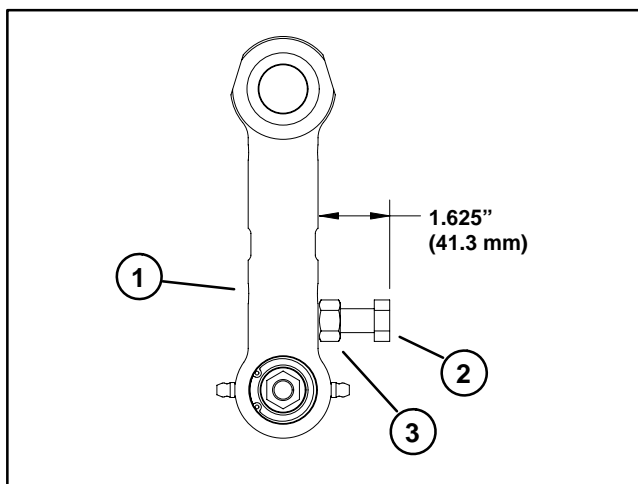

Figure 10
4. If cap screw and jam nut were removed from rear link, install cap screw to allow 1.625" (41.3 mm) between the head of the screw and the side of the link (Fig. 10).